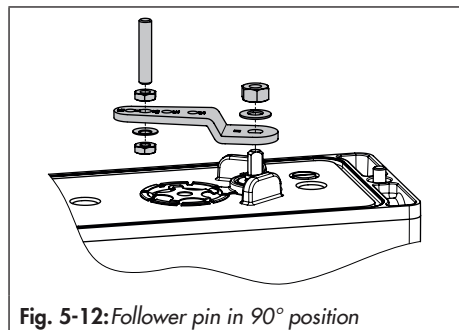

Fig. 5-12: Follower pin in 90° position
1. Fasten the adapter block (1) to the actuator's NAMUR interface using the four fastening screws (2).
2. Mount the follower wheel (3) onto the actuator shaft. Use the matching shaft adapter (see Table 5-9).
3. Place the adapter bracket (4) onto the adapter block (1) and fasten it using the fastening screws (5).
4. Insert and fasten the follower pin in the 90° position on the positioner's lever (see Fig. 5-12).
5. Align the positioner on the adapter bracket (1) in such a way that the follower pin engages into the actuator's follower wheel (3).
6. Fasten the positioner onto the adapter bracket (4) using the fastening screws (6).
7. Mount the Type 3710 Reversing Amplifier (7) together with the two guide bushings (8) and terminal plate (9) onto the adapter bracket using the associated fastening screws (10).